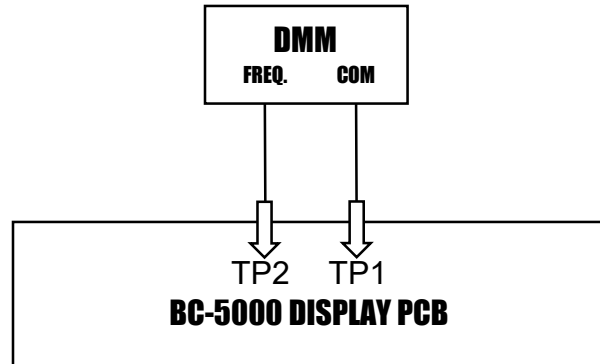

Figure 2
4. Connect DMM V+ lead to TP2 on the display circuit board. See Figure 2